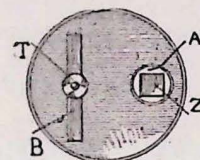

FIG. 1. PLAN OF CELL, WITH ZINC AND CARBON IN POSITION.
Only a small cell is needed to work amateurs' coils, and a suitable one can be made from an outer glass jar having a wide, open mouth, and holding about a quarter pint of bichromate of potash and sulphuric acid solution. A strip of carbon of such dimensions as to almost fit in the jar on one side is required; also a half-inch square bar of zinc of such a length as to stand up half an inch above the top of the jar when resting on the bottom. The top or upper end of the carbon should be coated with electrotype copper for a distance of half an inch, and a brass terminal soldered on. A round top should now be fitted to the top of the jar with a slot large enough for the carbon plate to fit, and a circular hole A (see Fig. 1) to take the zinc bar (Z).
The illustration, Fig. 1, shows a plan of the cell with carbon (B) and zinc bar in position. In lieu of the ebonite top, stout paraffined cardboard can be used, but in this case an ebonite ring must surround the zinc bar. With the carbon strip and cover in place, pour in some melted pitch or marine glue in the opening at A so as to fix the bottom of the carbon rod in place. Next amalgamate the zinc bar with mercury, which is done by thoroughly cleaning the zinc and then rolling it in the mercury until it is brightly coated. The zinc may now be inserted in the cells as shown in Fig. 1. T is the terminal.